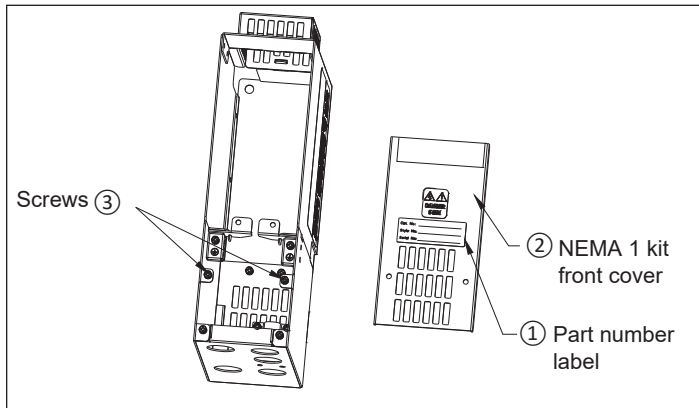

Figure 1. Completing the product information on the part number label.
Record the catalog number, style number, and serial number on the part number label ① from the rating label attached on the right surface of the drive plastic housing, then attach the part number label to the NEMA 1 kit front cover ② (see Figure 1). DO NOT cover the venting holes on the front cover.
Remove the two screws ③ and disassemble the NEMA 1 kit front cover ② (see Figure 1).